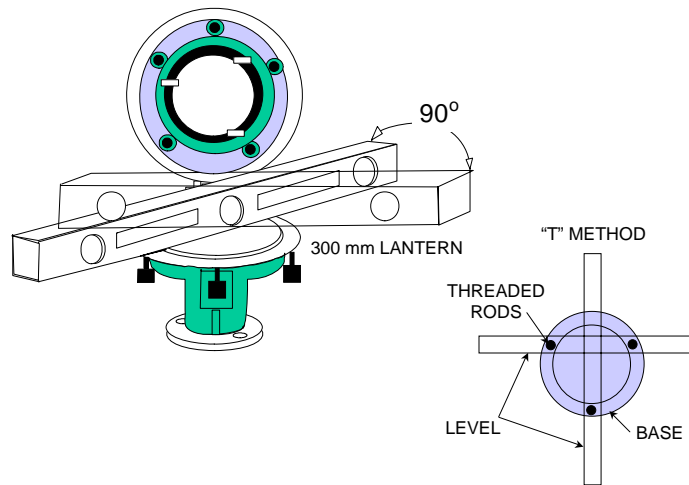

Figure 3-20
- c. With lens open, place a level on the flange of the lantern base. Use the "T" method shown in Figure 3-20 so that adjustment of one leveling bolt won't affect the other adjustment. **DO NOT USE THE LANTERN BUBBLE LEVELS.**
- e. Move the level ninety (90) degrees from your first position and readjust. See Figure 3-20.